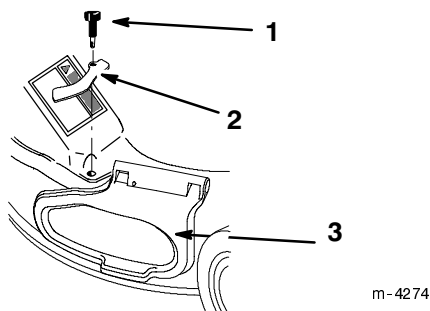

Figure 42
12. Secure the front right corner of the discharge tunnel and the side opening cover with the side cover clamp removed previously and the long knob supplied with the grass catcher (Fig. 42).